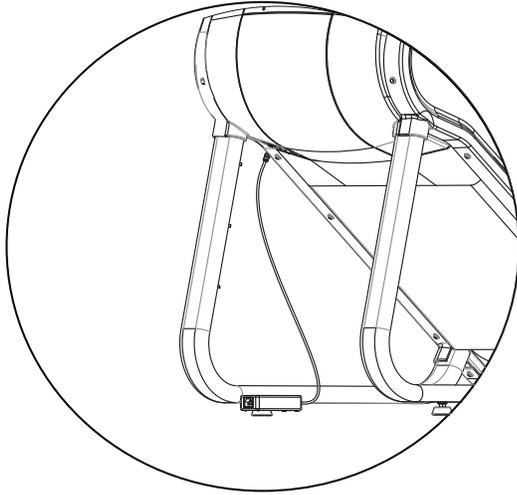

Figure 10
- 10-1** Connect the DC Power Cable from the Power Supply to the power connector located on the bottom cover (Figure 10).